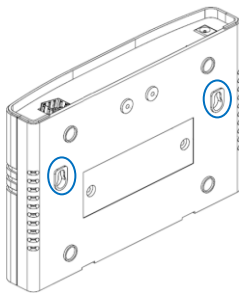
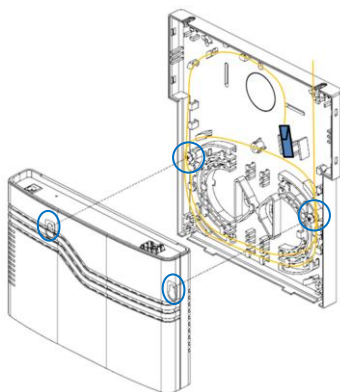

Figure 13. Cable tray mounting holes
Figure 14. Install the device onto the cable tray
Step 4. Use two mounting holes (Figure 13) on the bottom to install the device on the cable tray base (Figure 14 & 15).